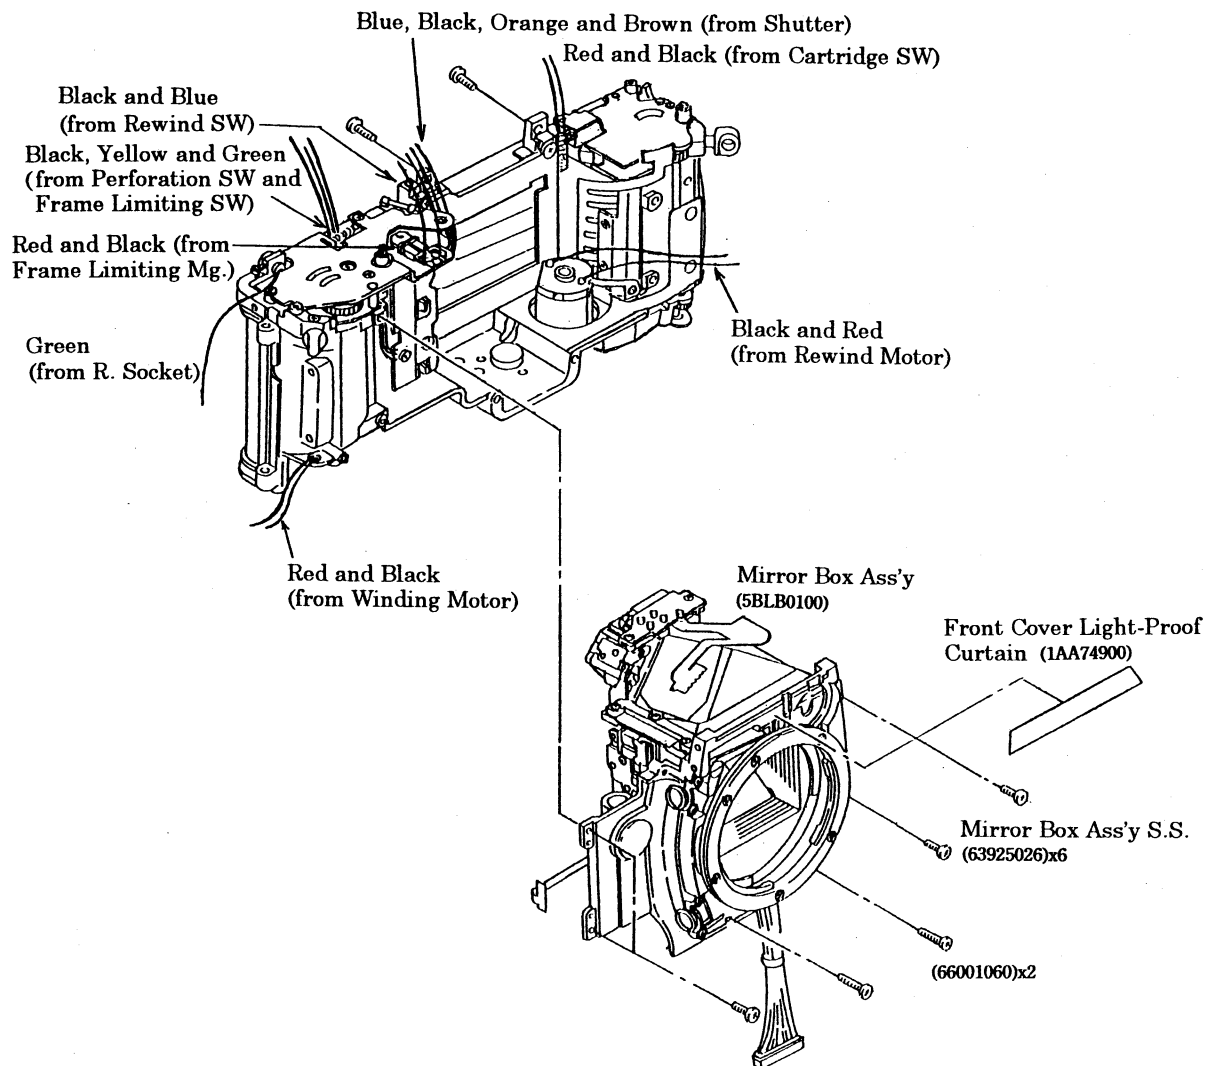
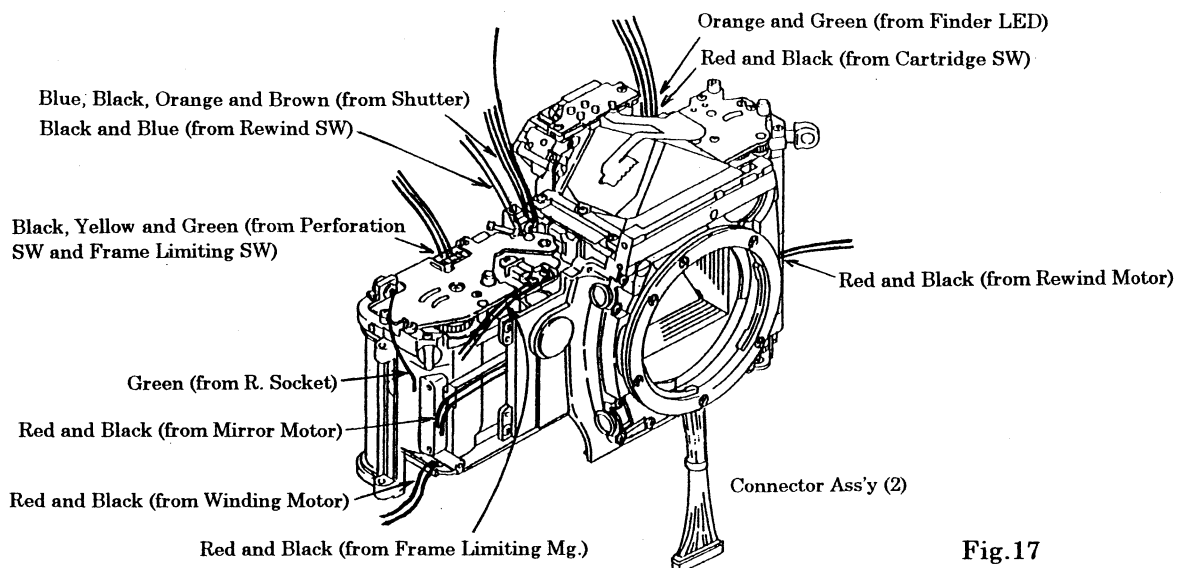

Fig.15
Fig.17
- The lead wires connected to the Body and those connected to the Mirror Box Ass'y must be placed out of the Body as shown in Fig. 15. And when installing the Mirror Box Ass'y, take care not to catch any lead wires or FPC between the Body and the Mirror Box Ass'y. Make certain that the lead wires are placed out as shown in Fig. 17.